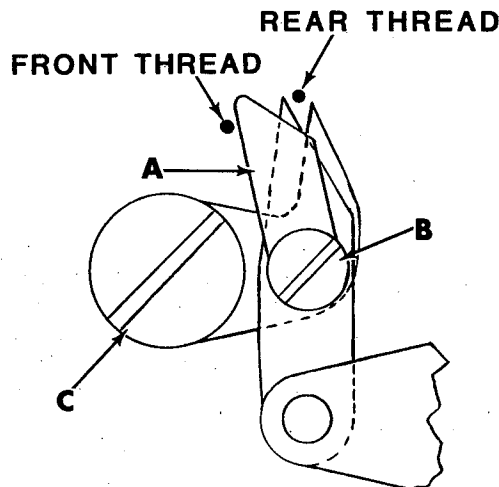
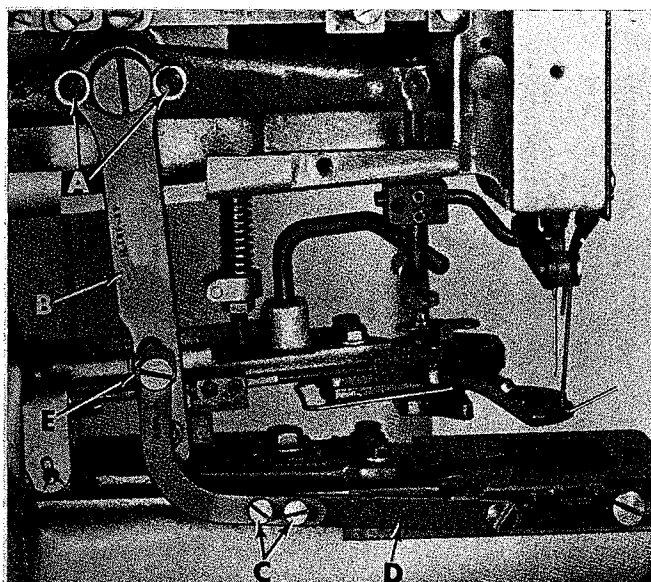

Fig. 30
Fig. 31
With the needle threaded, button and fabric in place to be sewn, engage the machine into RUN POSITION. Rotate the pulley in operating direction until on the last needle penetration before STOP POSITION the clamp lift rod starts to move. Now, tilt the machine on its side, continue rotating the pulley and observe the knife movement. The thread separator (A, Fig. 30) must push the front thread of the loop forward so the knives do not touch it. The scissor action of the knives should sever the rear thread only.
To move the thread separator (A, Fig. 30) loosen screw (B). The knives can be positioned to the rear thread by loosening screw (C, Fig. 30) and moving knives to the front or rear as required. Tighten screw (C). The lateral position of the knives relative to the thread may be adjusted by loosening screws (A, Fig. 31) and moving the arm (B). Tighten screws (A).
Further lateral adjustment of the knives can be obtained by loosening screws (C) and moving link (D) in the slot. Tighten screws (C). To increase or decrease the distance knife travels loosen locknut (E, Fig. 31) and position the stud up or down in the slot. Moving the stud down will increase the travel.